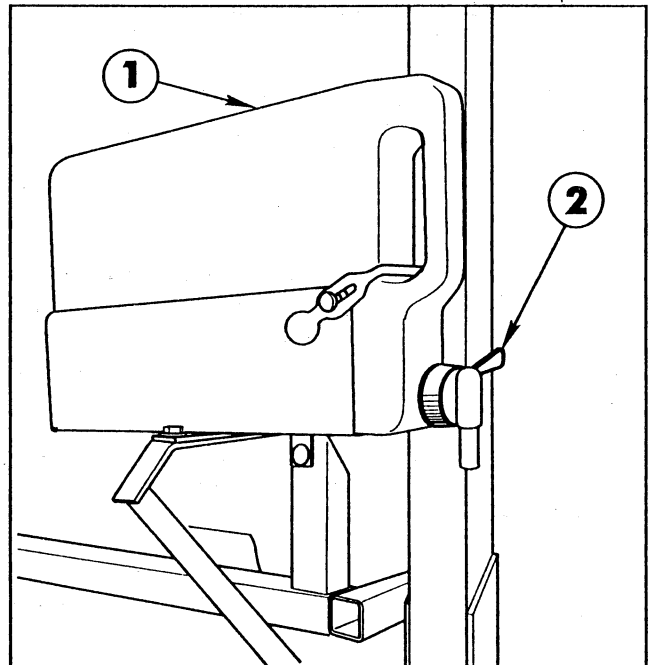

Fig. 8
3. Place the valve handles on the Injection Pumps to "calibration" positions. (See FIG. 8, Page 12).
1. Turn Tank Spicket to on position. See FIG. 8.
2. Place Valve Handle on Injection Pump 1 to the calibration position. See FIG. 8.